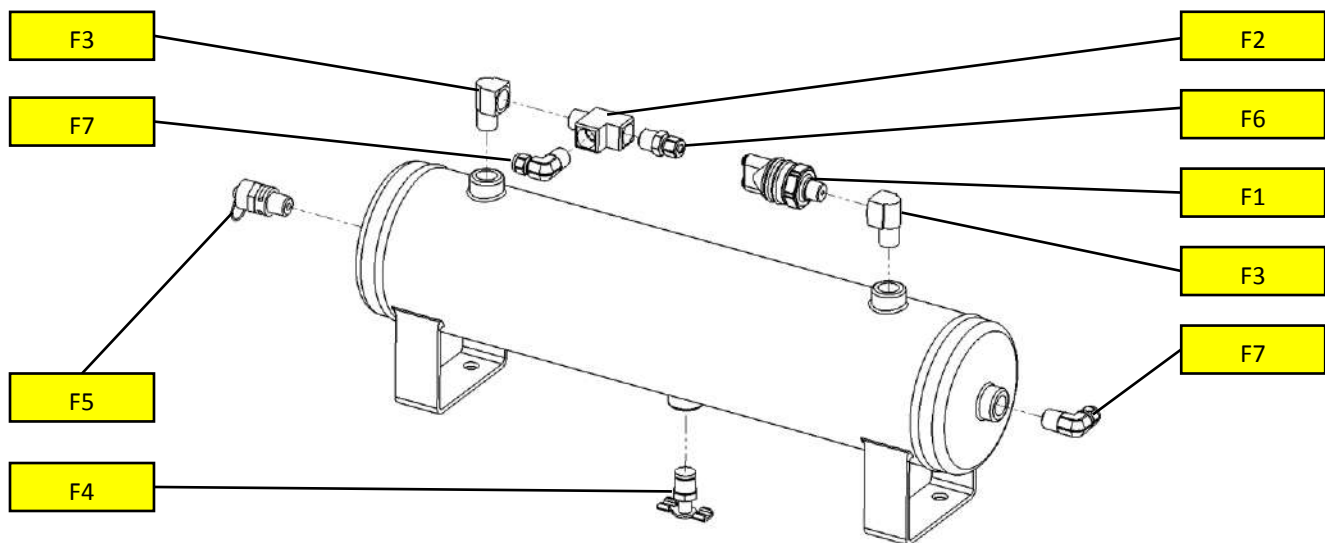

Figure 12 – Air Tank Fittings installed on Air Tank, Exploded View
- 8.9.10. Route Air Tubing back to Air Tank, as desired and safely secure to frame away from heat and sharp edges using zip-ties. Attach to proper port listed in figure 12 above.
- 8.10.2. Use supplied 1/4" tubing and attach to port shown in Figure 12 above. Some example locations include under rear deck, near front grill, on bumper, on included Bracket, etc.